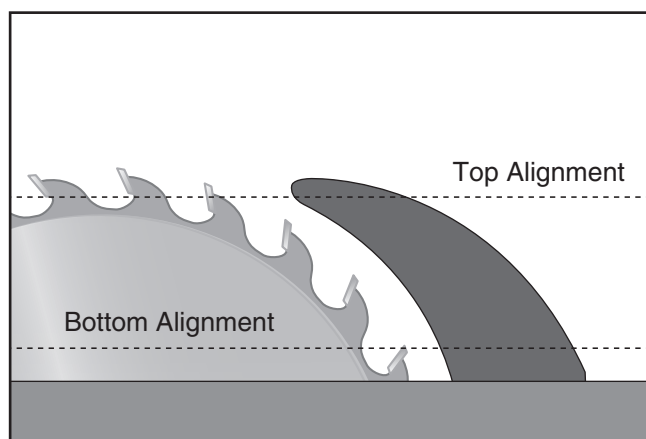
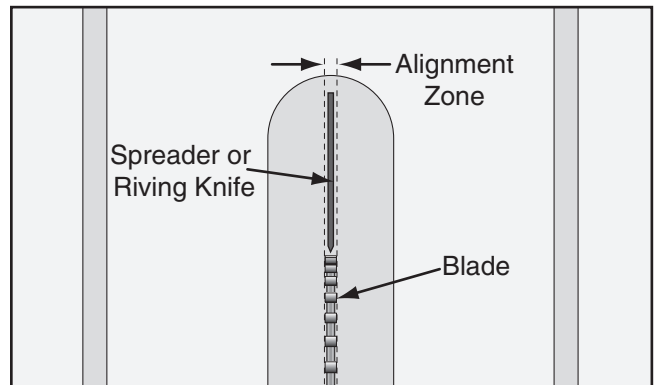

Figure 86. Checking top and bottom riving knife parallelism with blade.
Figure 87. Spreader/riving knife alignment zone.
3. Place straightedge against side of blade and spreader/riving knife at top and bottom, as shown in **Figure 86**. Spreader/riving knife should be parallel with blade along its length at both positions, and in "Alignment Zone," as shown in **Figure 87**.
- Bend spreader or riving knife by hand while installed, then follow **Steps 1–3** in **Checking Alignment** on **Page 53** to determine if it is parallel with blade and inside "Alignment Zone" (refer to **Figure 87** in **Checking Alignment** on **Page 53**).